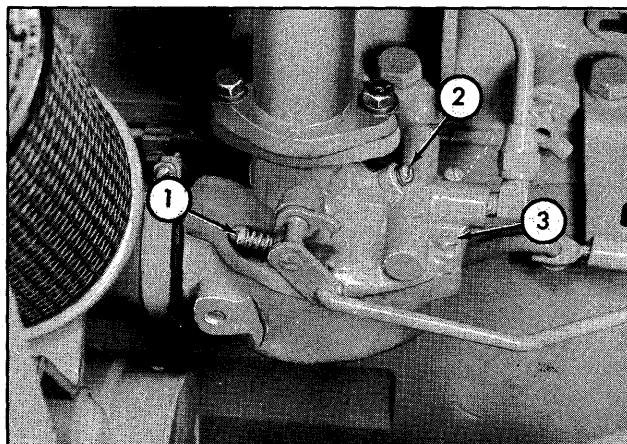

Figure 1-14. Carburetor (Gasoline)
3-16. GASOLINE CARBURETOR. (See figure 1-14.) Inspect the linkages for signs of rough edges, paint, or binding. Check all connections for evidence of leaking. If the engine fails to start or does not operate properly, make the following carburetor adjustments:
- a. Screw in the idle adjusting needle (2, figure 1-14) until it just seats; then open the needle two full turns.
- b. Make certain the idle speed stop screw (1, figure 1-14) is holding the throttle disc slightly open.
3-23. The cooling system on a gasoline engine has 3 drains -- the radiator drain, located at the lower side of the bottom tank; and a drain for each engine block (3, figure 1-14). The LP-Gas engine has, in addition, a drain in the converter. Whenever the system is drained, it should be done at the end of a day's run when any foreign material is in suspension and will be removed with the coolant. To insure complete draining, open all drains and remove the radiator cap.